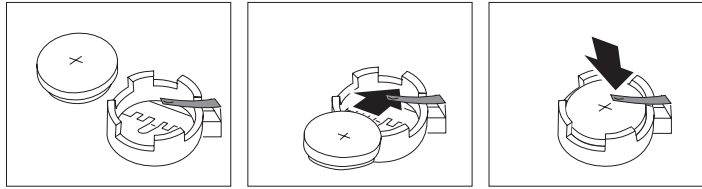

Figure 118. Replacing the SAN Volume Controller 2145-4F2 system board CMOS battery
2. As you slide it under the battery clip, press the battery down into the socket, as shown in Figure 118.